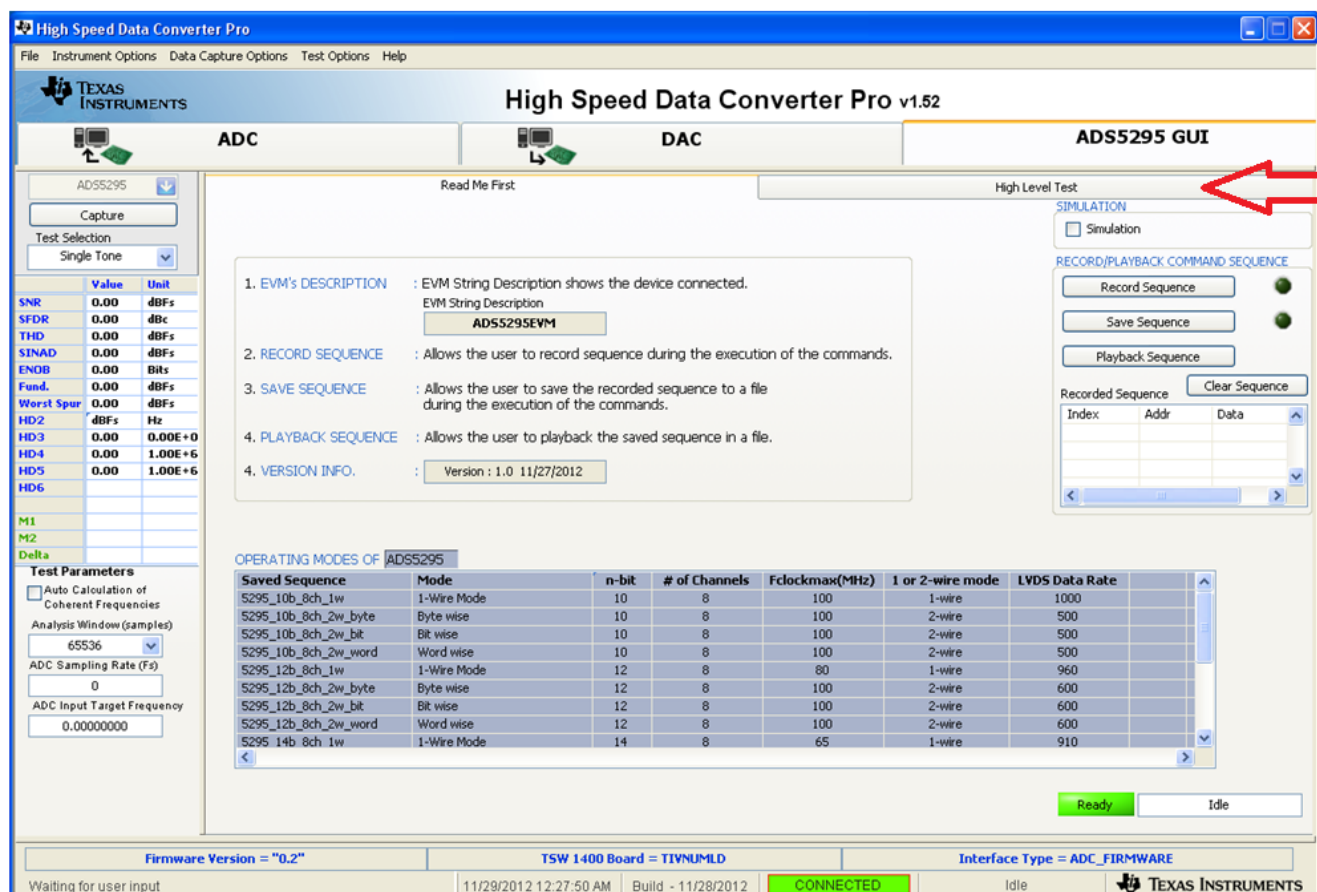

Figure 7. ADS5295 GUI Plug-In Tab
- The **ADS5295 GUI** tab contains two sub-tabs called *Read Me First* and *High Level Test*. The default tab displayed is the *Read Me First* tab as shown in Figure 7